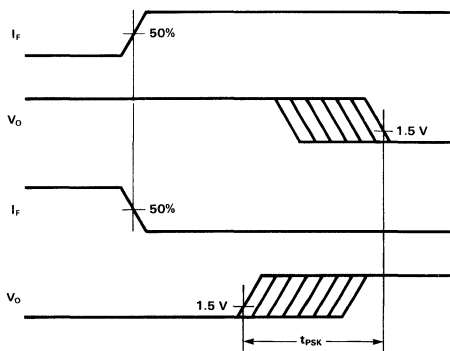

Figure 11. Illustration of Propagation Delay Skew — t_{PSK} .
- The typical data shown is indicative of what can be expected using the application circuit in Figure 11.
ature). As illustrated in Figure 11, if the inputs of a group of optocouplers are switched either ON or OFF at the same time, t_{PSK} is the difference between the shortest propagation delay, either t_{PLH} or t_{PHL} , and the longest propagation delay, either t_{PLH} or t_{PHL} .
A recommended LED drive circuit is shown in Figure 11. This circuit utilizes several techniques to minimize the total pulse-width distortion at the output of the optocoupler. By using two inverting TTL gates connected in series, the inherent pulse-width distortion of each gate cancels the distortion of the other gate. For best results, the two series-connected gates should be from the same package.
The circuit in Figure 11 also uses techniques known as prebias and peaking to enhance the performance of the optocoupler LED. Prebias is a small forward voltage applied to the LED when the LED is off. This small prebias voltage partially charges the junction capacitance of the LED, allowing the LED to turn on more quickly. The speed of the LED is further increased by applying momentary current peaks to the LED during the turn-on and turn-off transistions of the drive current. These peak currents help